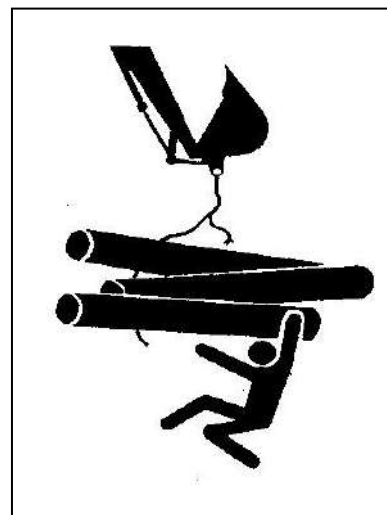

Figure 3.7.2
- ◆ Don't use damaged chain, wire rope, or cord in lifting work, or GBH may occur (As figure 3.7.2).
- (1) Sling/chain should tightly bind the load down, the workman should glove when bind sling/chain.
- (2) Connect sling/chain with bucket lifting ring, curled bucket, and retracted arm.
- (3) Before starting, it should uniform the hand signal with signalman.
- (4) Acquaint with the positions of all workmen in the range of working area.
- (5) Connect hand rigging on the load and ensure the people pulling hand rigging away from load.
- (6) Try to lift the load before normal operation.